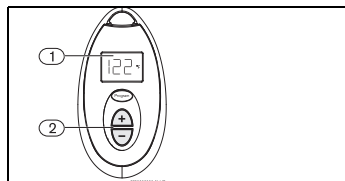

Fig. 11 Temperature adjustment
- ▶ Press the buttons Δ or ∇ on the remote control (Fig. 11, pos. 2) until the required temperature
appears on the remote control display (Fig. 11, pos. 1).